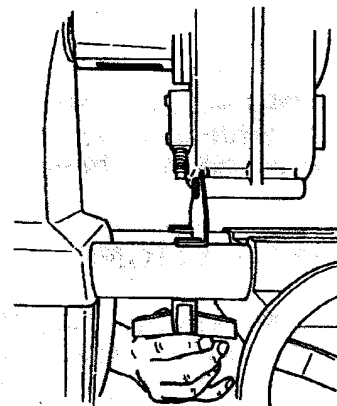

Fig.12
8. Tighten the bracket support assembly's wing nut underneath the way tubes, as shown in Fig.12, but do NOT tighten the screws which fasten the bracket to the Speed Reducer housing.